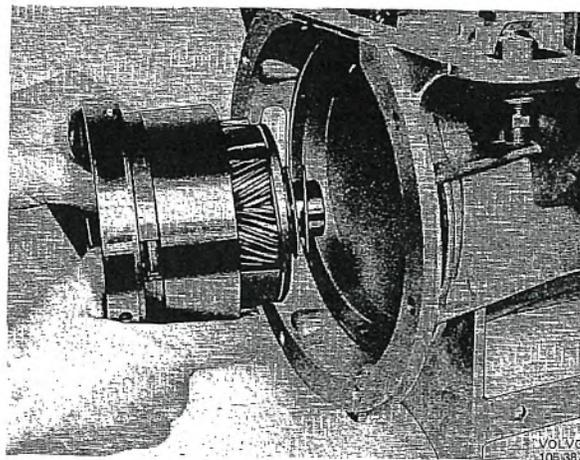

Fig. 4-96. Installing center support and planet gears with needle thrust bearing and plate washer
7. Assemble the planet gear, one-way clutch and center support, see Fig. 4-96. Stick the thrust plate and needle thrust bearing to the planet gear with vaseline.